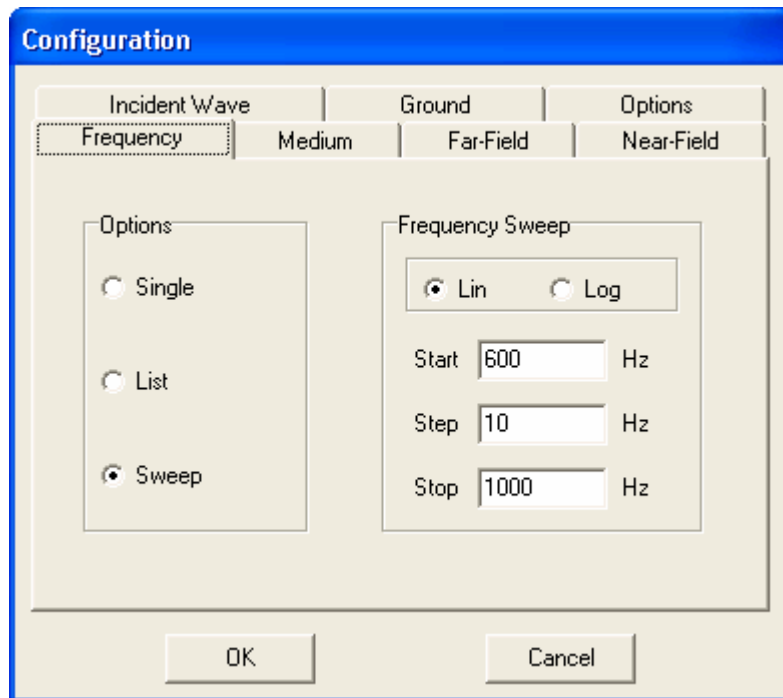
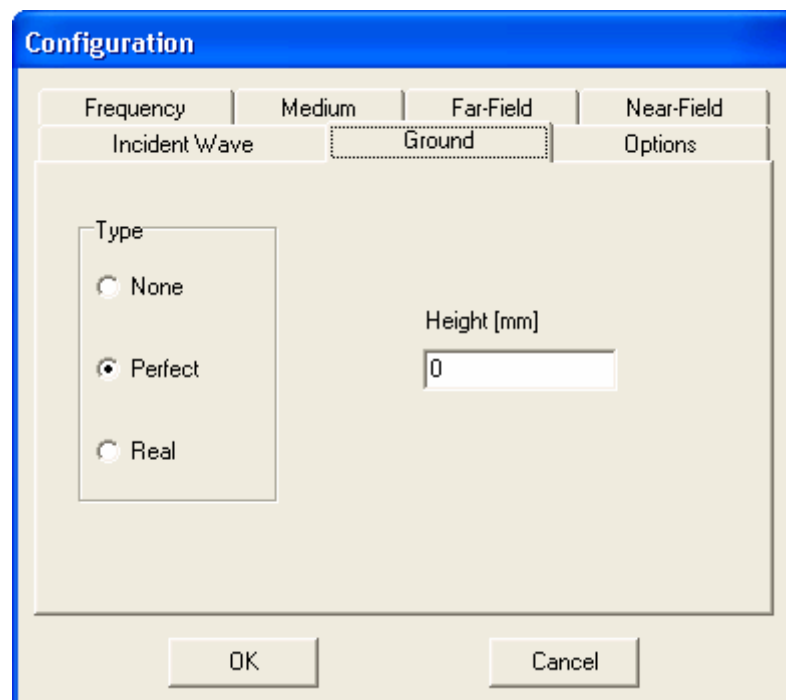

Fig. 14.15: The Frequency page in the Configuration dialog box. The computation is performed at the frequencies: 600, 610,... ,990, 1000 Hz.
Fig. 14.16: The Ground page in the Configuration dialog box.
Step 1: Go to Edit/Preferences in the main menu and select the Hz , mm, mH and uF as the units for frequency, length, inductance and capacitance, respectively. Then, choose Simulate/Configure... in the main menu. In the Frequency page of the Configuration dialog box choose "Sweep" and fill the "Frequency Sweep" box as shown in Fig. 14.15. Then, choose the Ground page and fill it as shown in Fig 14.16.